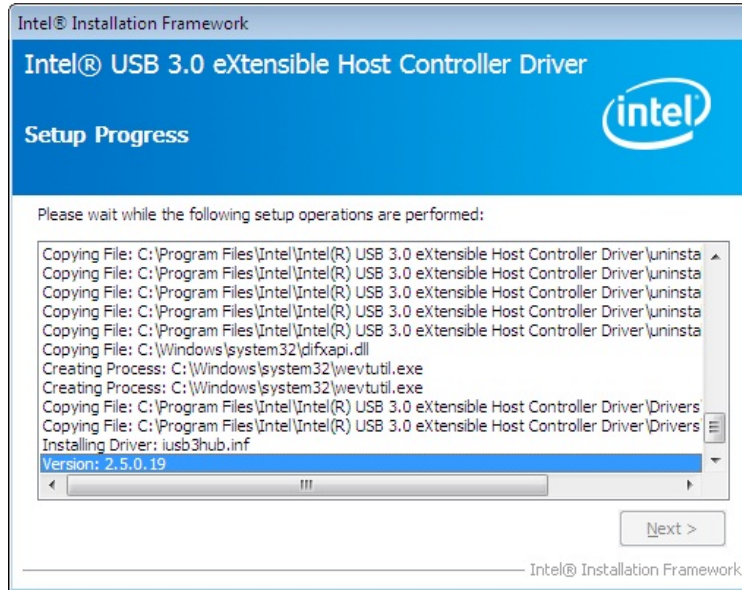

Figure 6-22: USB 3.0 Driver Setup Operations
Step 11: Setup Operations are performed as shown in **Figure 6-22**.